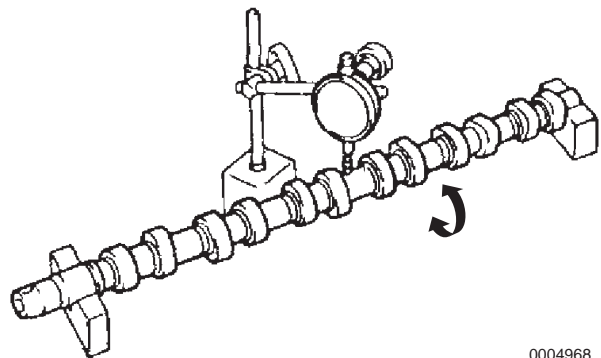

Figure 5-43
1. Install the camshaft on a V-block to measure camshaft runout on the center journal. Use a dial indicator to measure runout while turning (**Figure 5-43**).